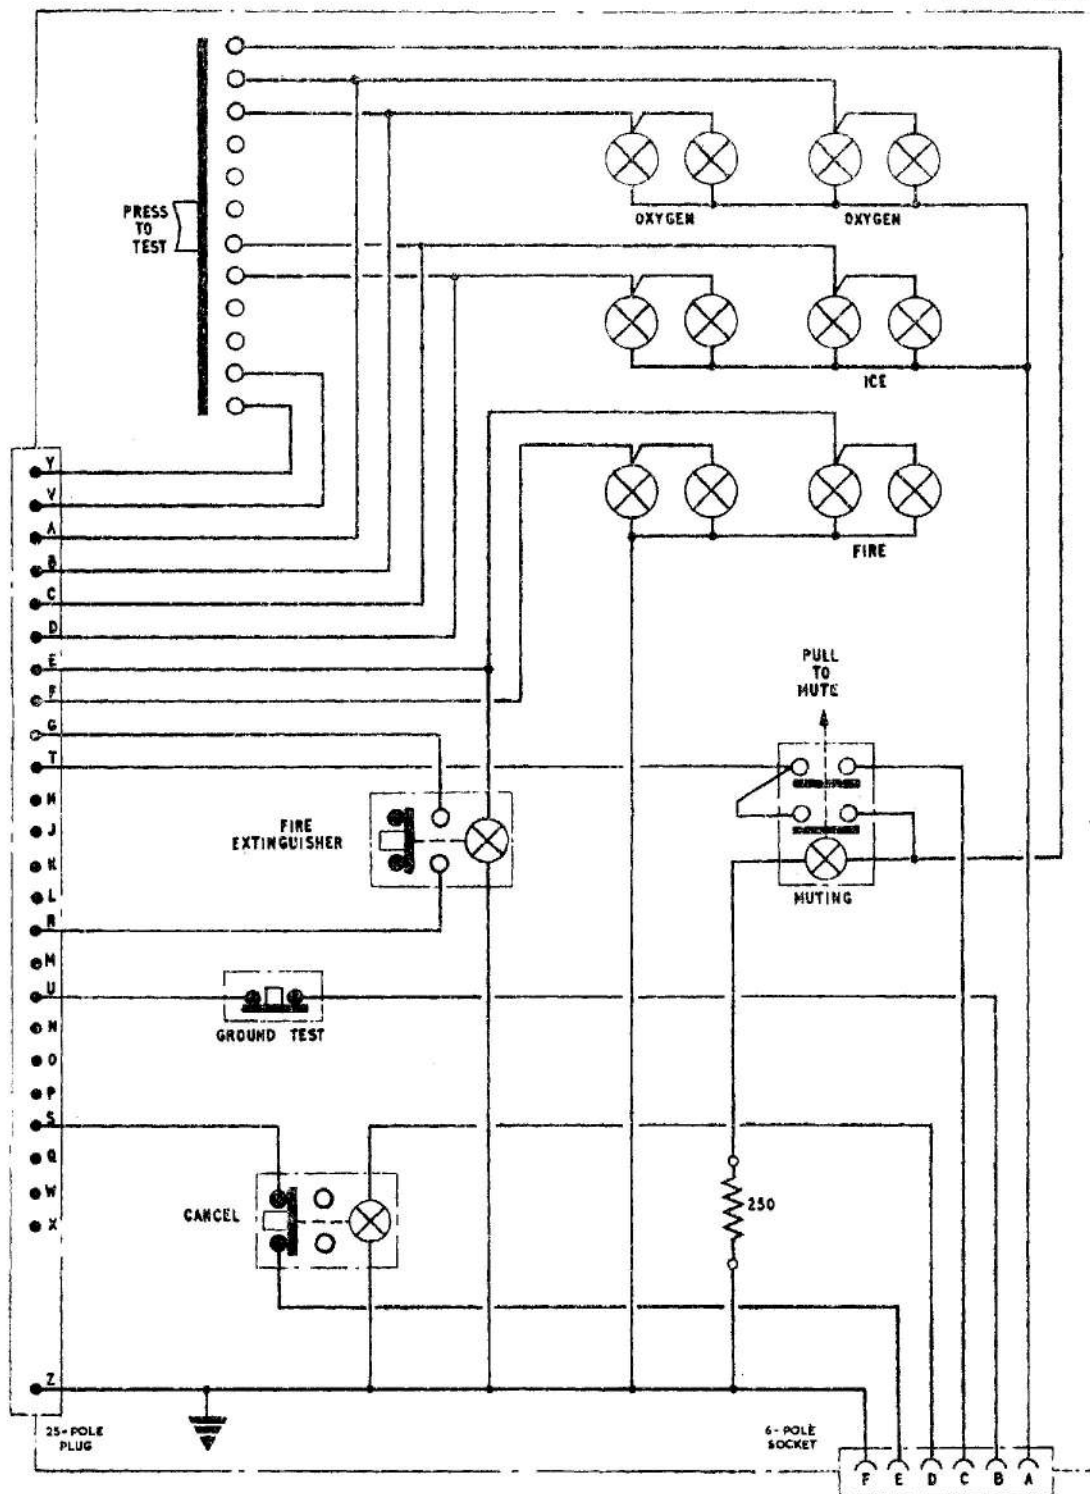

Fig. 2 Circuit diagram
3. These push-switches are described in A.P.4343C, Vol. 1, Book 1, Sect. 1; C180/A are single-pole, double-throw spring-return switches with red illuminated heads; C180/F20 is similar, but with a sea-grey, non-illuminated head; and C675/A2 is a double-pole, single-throw switch with a red illuminated head, which may be set in either operating position. The final letter in the coding of each switch indicates the engraving. A circuit diagram of the unit is given in fig. 2.